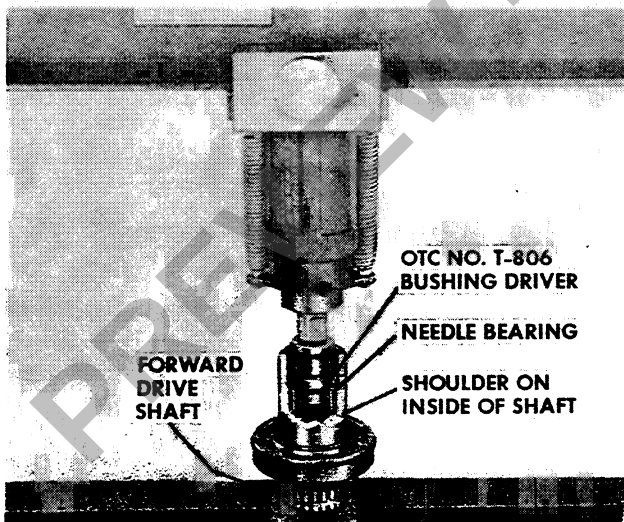

Figure S-60
2. Now press the needle bearing into the rear of the forward drive shaft using an OTC No. T-806 bushing driver, Figure S-60.